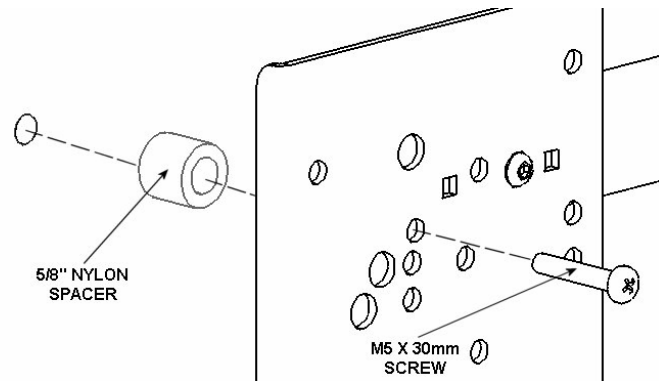
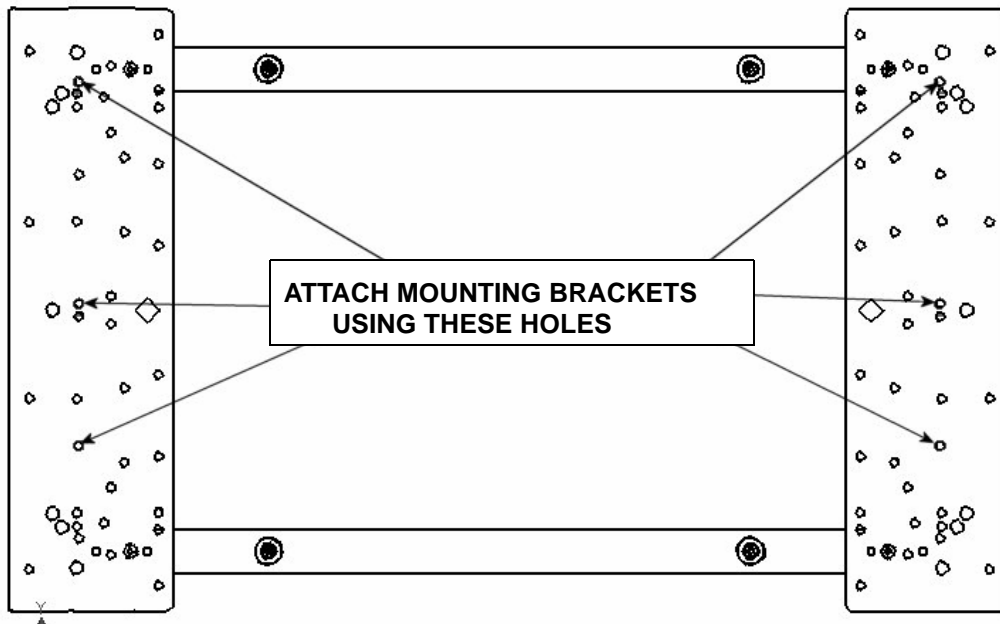

Figure 12. Spacer Installation for Group 4
Figure 13. Bracket Attachment for Group 4
5. Place the interface brackets over the Nylon spacers (see Figure 12 and Figure 13).
7. Using the hardware in the parts bag labeled D, attach the interface brackets to your display in the proper holes in each interface bracket (See Figure 12 and Figure 13). Do not overtighten the mounting screws.